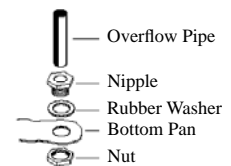

Fig. 3
- **Overflow assembly.** Remove nut and place nipple through the hole in the pan, with the rubber washer between the pan and the head of the drain nipple (Fig. 3). Screw on nut and draw up tight against bottom of pan. Insert overflow pipe in nipple to retain water. Overflow pipe may be removed to drain pan when necessary. A garden hose may be screwed on the drain nipple to drain water away from your unit.